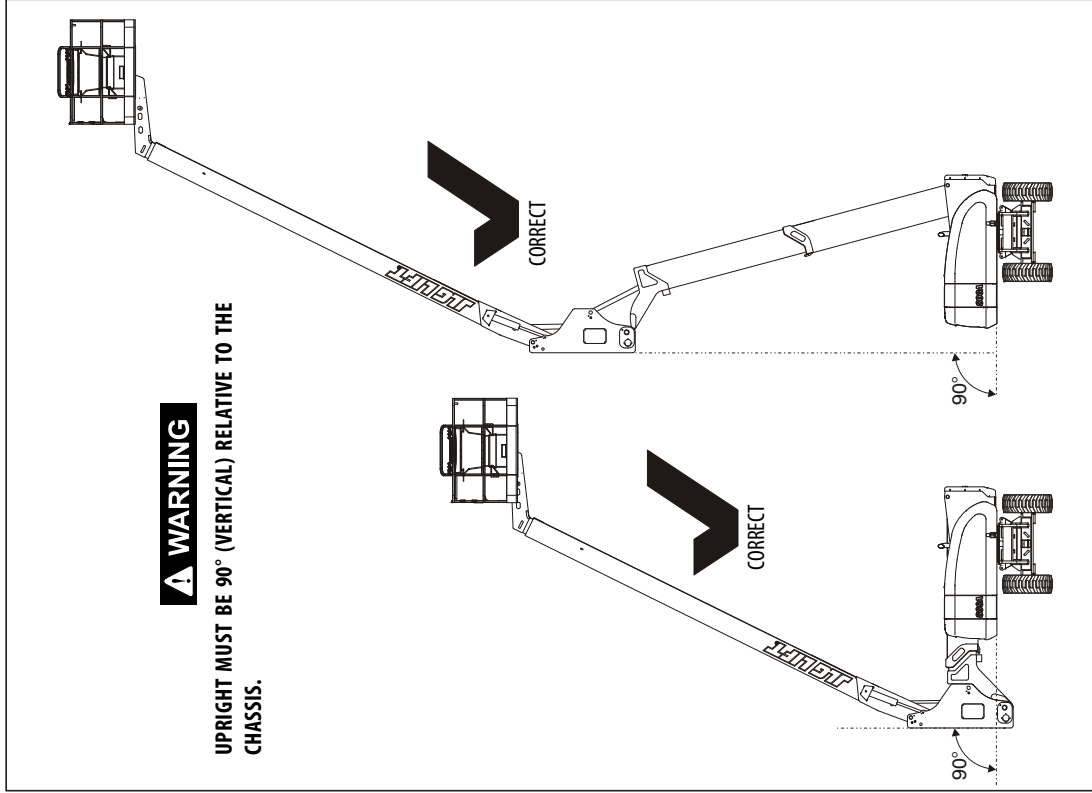
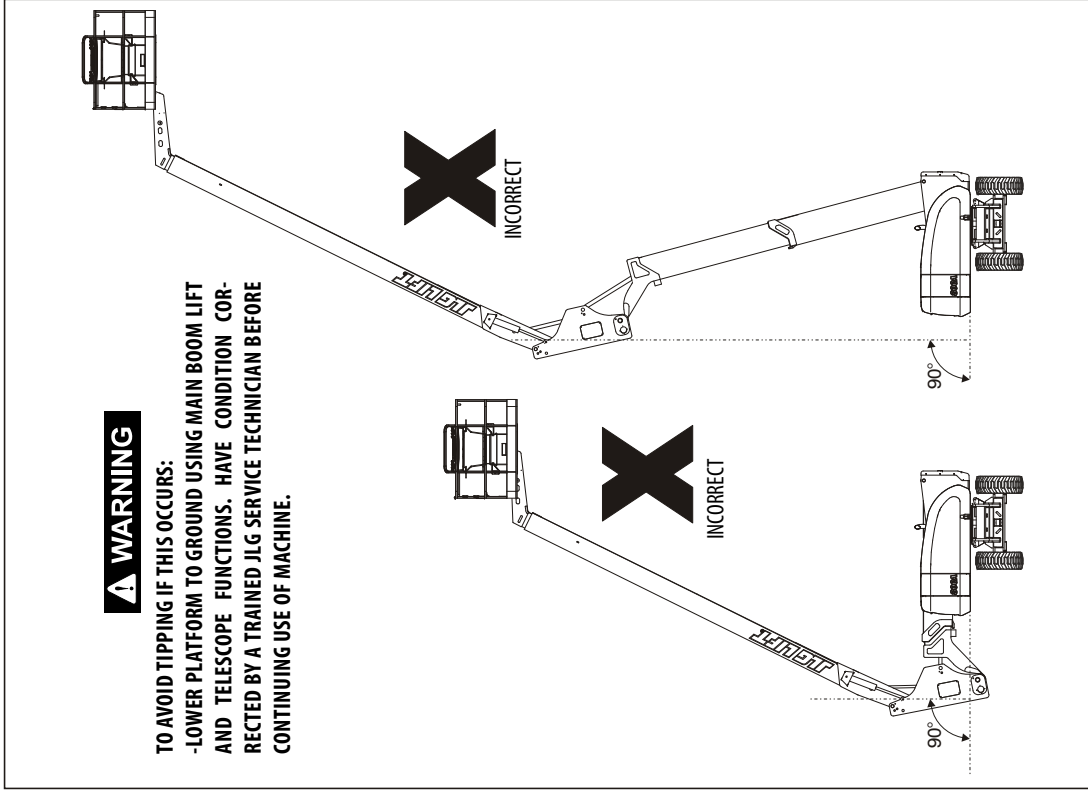

Figure 2-7. Boom Upright Positioning - Correct
Figure 2-8. Boom Upright Positioning - Incorrect
23. Upright - In vertical position, relative to the chassis. Refer to Figure 2-7. and Figure 2-8. If out of alignment, do not use machine until the upright has been synchronized in accordance with Section 4.16.
- c. Raise the tower base boom to approximately 40 degrees, then lower the tower boom back to the below horizontal position. While raising and lowering the tower boom assembly, observe the position of the upright. Ensure that the upright remains vertical relative to the chassis. Refer to Figure 2-7. and Figure 2-8.